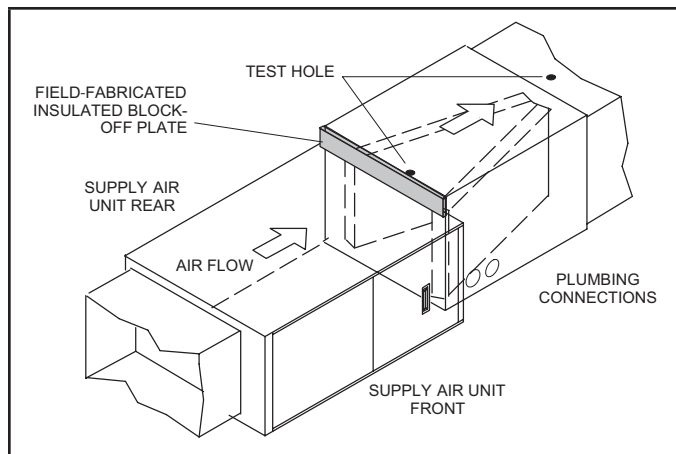

FIGURE 2. D-Width Coil with C-Width Furnace
- 5 - **Applications using CH35-60 D-width unit with C-width furnace** – Figure 2 shows an application that includes a D-width coil and a C-width furnace. This application requires construction of an insulated, field-supplied block-off plate to cover the open space on the coil housing